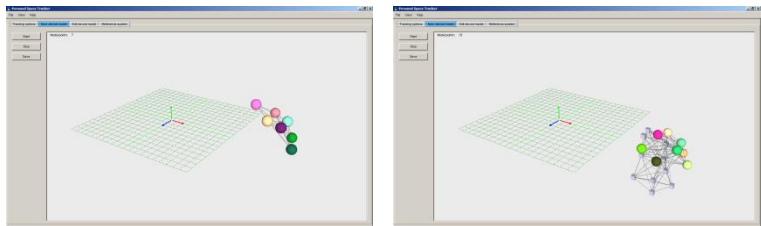

Figure 6.9. Training in progress
2. Select the tracking system to use for training and press the “Start” button in the training window. The training live view is updated and displays the 3D points corresponding to the visible markers. An example training session is shown in Figure 6.9. The colors encode the different markers in the device model. Grey cubes indicate that a previously visible marker is occluded and its position is being predicted by the PST. The training live view can be manipulated in the same way as the tracking live view (see Section 6.3).